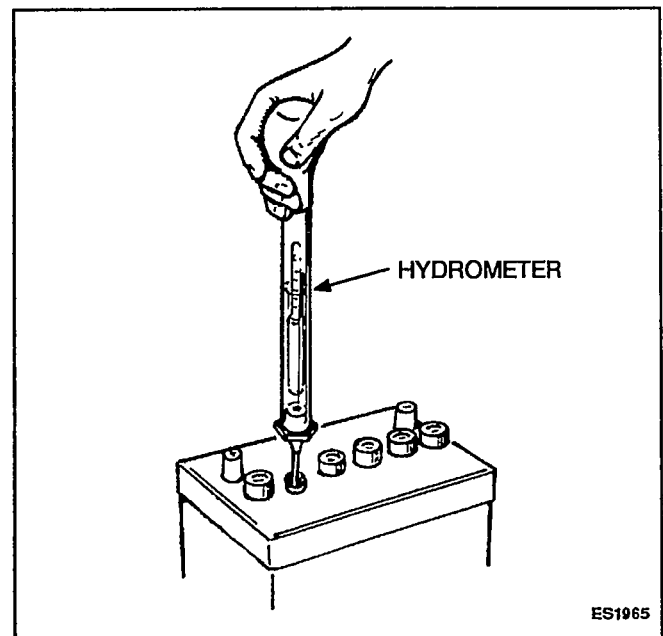

FIGURE 12. BATTERY CHECK
6. Use a battery hydrometer to check the specific gravity of the electrolyte in each battery cell (Figure 12). Charge the battery if the specific gravity measures less than 1.215. Do not overcharge the battery. Stop charging the battery when the electrolyte specific gravity reaches 1.260, at approximately 80° F (27° C).